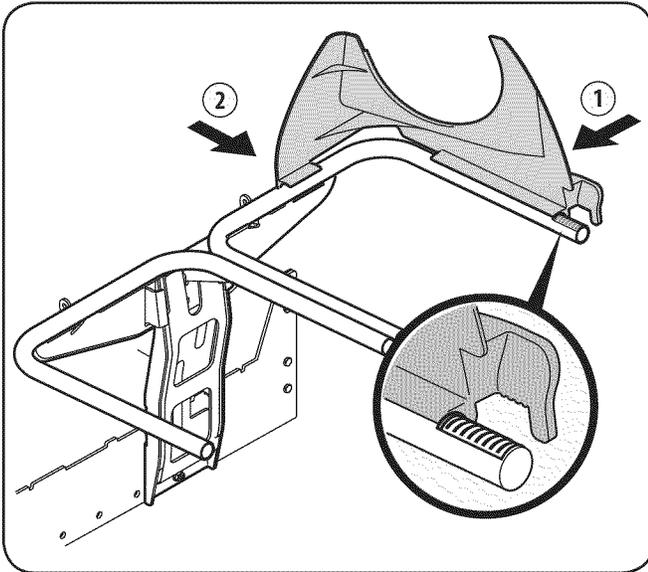

Figure 4-7
1. Snap the plastic upper chute support in place by first clipping the side portion onto the bagger support rail (1) with the edge of the snap feature aligned with the line on the label, as shown in the inset of Fig. 4-7.
2. Snap the front side of the chute support to the rail (2), as shown in Fig. 4-7.